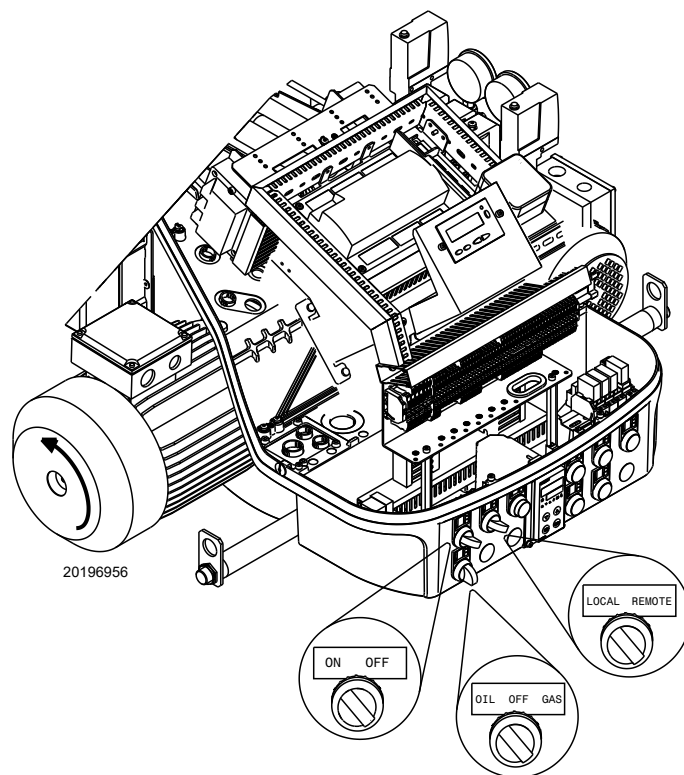

Fig. 46
Turn the switch to position “ON” (Fig. 46) and turn the switch of to position “LOCAL” and turn the switch to position “OIL” for oil operation and “GAS” for gas operation.
When the burner starts, check the direction of the motor rotation, as indicated in Fig. 46. As soon as the burner starts up, look at the cooling fan of the fan motor and check it is rotating anticlockwise.
- place the switch of Fig. 46 in position “OFF” and wait for the control box to carry out the switch-off phase;